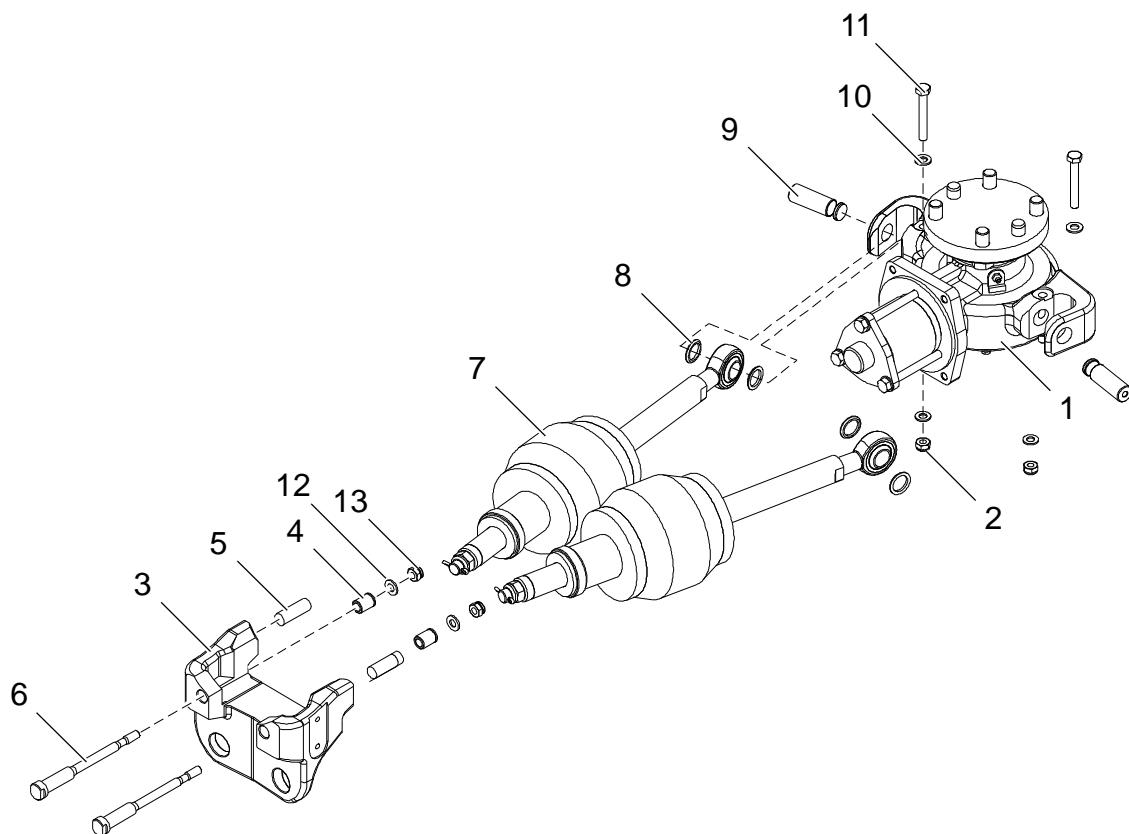

Figure 7-6: Replacement of Bracket Complete
2. Lift front of the coupler with a lifting strap or similar to unload the spring assemblies (7). See Figure 7-6.
3. Remove the screws (11), washers (10), nuts (2), pins (9) and spacers (8).
4. Remove the spring assemblies (7) from the bracket complete (3).
5. Remove the bracket complete (3) by removing nuts (13), washers (12) and screws (6).
6. Dismount bracket (3) and remove sleeves (4) and parallel pins (5) from bracket.
2. Fit the parallel pins (5) and bracket complete (3) to the coupler. See Figure 7-6.
3. Mount the screws (6), sleeve (4), washer (12) and nut (13).
4. Fit the spring assemblies (7) to the bracket (3) and centering house (1).
5. Mount the spacers (8), pins (9), nuts (2), washers (10) and screws (11).